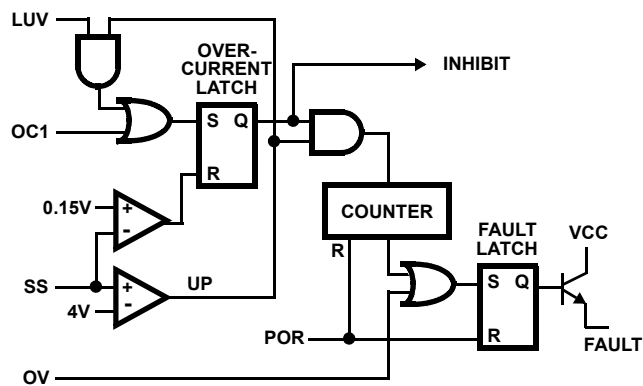

FIGURE 4. FAULT LOGIC - SIMPLIFIED SCHEMATIC
Figure 4 shows a simplified schematic of the fault logic. An over-voltage detected on V_{SEN1} immediately sets the fault latch. A sequence of three over-current fault signals also sets the fault latch. The over-current latch is set dependent upon the states of the over-current (OC), linear under-